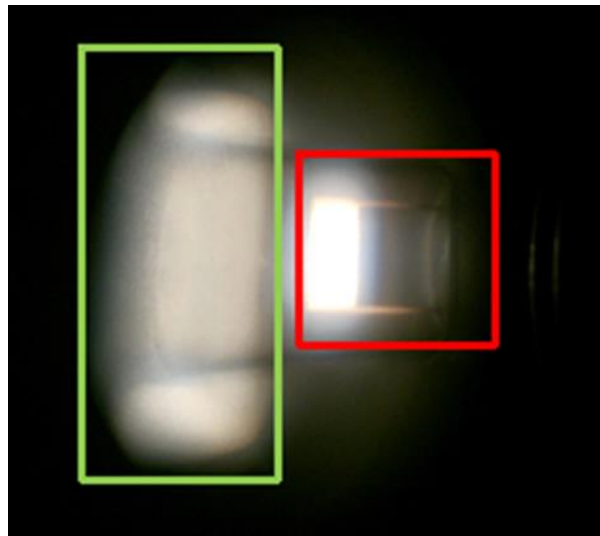
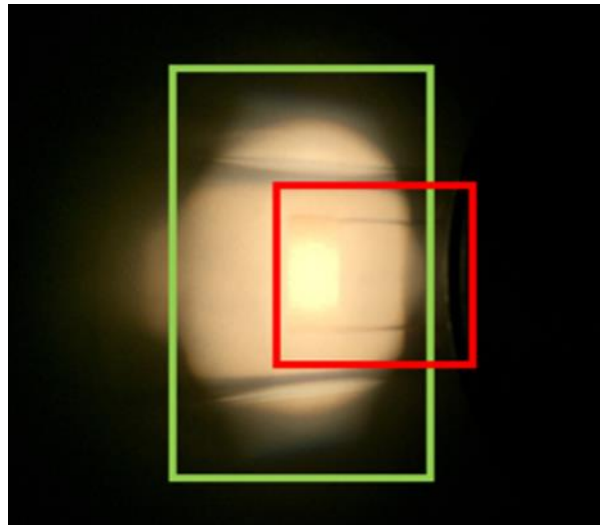

Figure 43: QTH lamp primary image (red box) and secondary reflected image (green box).
Figure 44: QTH lamp reflected secondary image superimposed onto primary image.
12. Figure 43 shows the lamp's primary image in the red box and the secondary image in the green box. Using the reflector adjustment knobs, ensure the secondary image is as sharp as possible. This may require loosening the condenser lens assembly adjustment knob and defocusing the primary image of the lamp filament, in order to achieve a sharper image of the filament's secondary image. Then overlay or superimpose the reflector's secondary image of the lamp onto the primary image of the lamp filament (see Figure 44). See Figure 41 for reference on how the secondary image is displaced relative to which knob is adjusted in each direction.